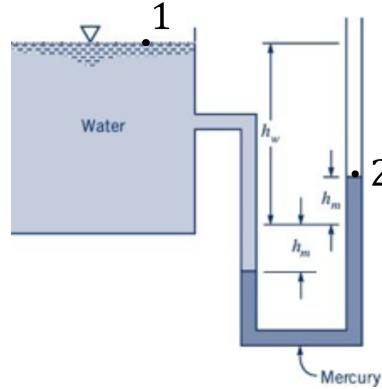

Figure 4: see problem 2.2a
**Problem:** (a) A mercury manometer is connected to a large reservoir of water as shown in Figure 4. Determine the ratio,  $h_w/h_m$ , of the heights  $h_w$  and  $h_m$  indicated in the figure ( $SG_m = 13.56$ ).
The height ratio is calculated by summing the individual parts of the pressure head. Note the sign change when you change the direction along the tube. The pressure between point 1 and 2 (see Figure 4) relates as